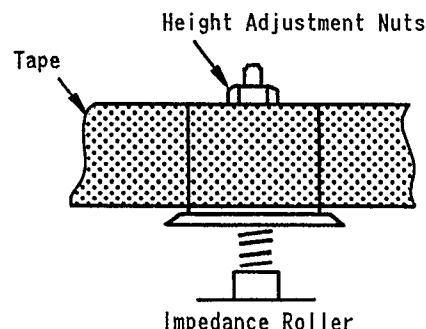

Fig. 5-4.
6. If any curling or detects are noted, adjust tape guide roller and impedance roller first. In this case, adjust the impedance roller both PLAY and REV modes so that tape runs as shown in Fig. 5-4.